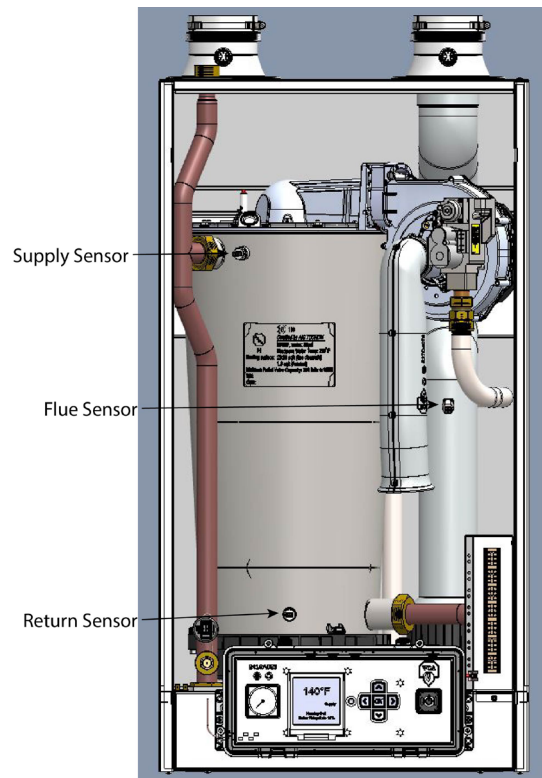
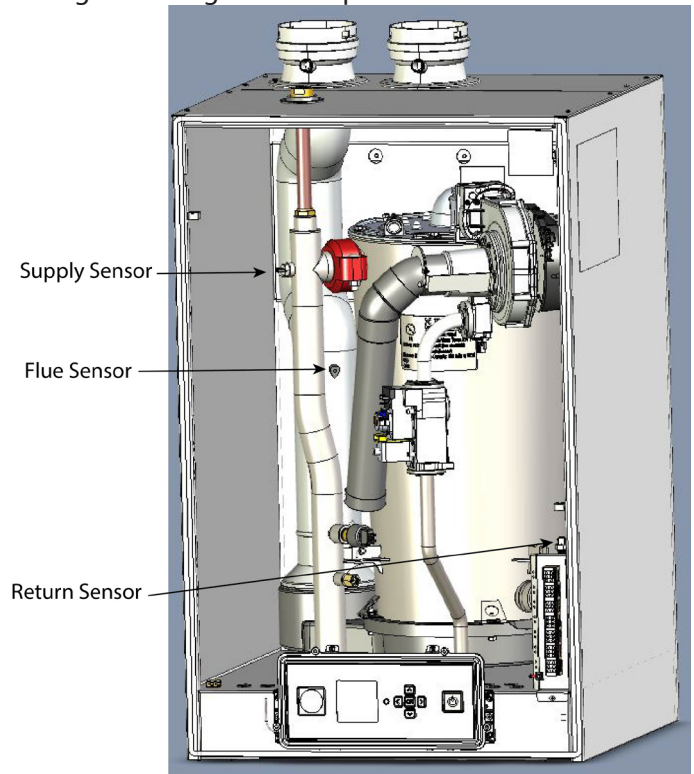

Fig. 1: Prestige 250 Temperature Sensor Location
Fig. 2: Prestige 299/399 Temperature Sensor Location
6. Locate the temperature sensor location from Fig. 1 and Fig. 2.